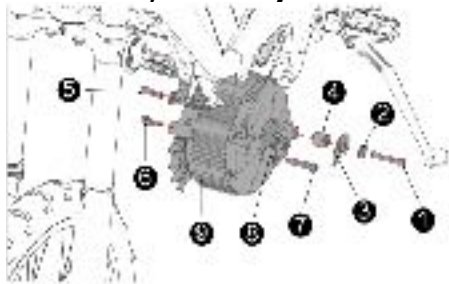

Fig 44
11.15 Disassemble DC motor assembly (see Fig 44)